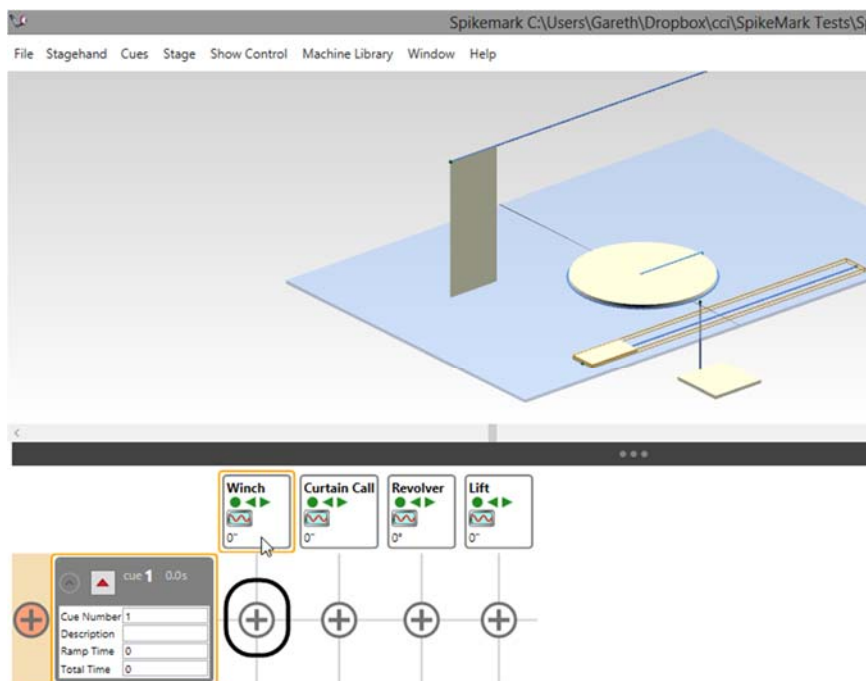

Figure 306
6. If you don't already have a movement for the selected motor in this cue, click the **Add Movement** button in the **Cue Grid** (Figure 306).